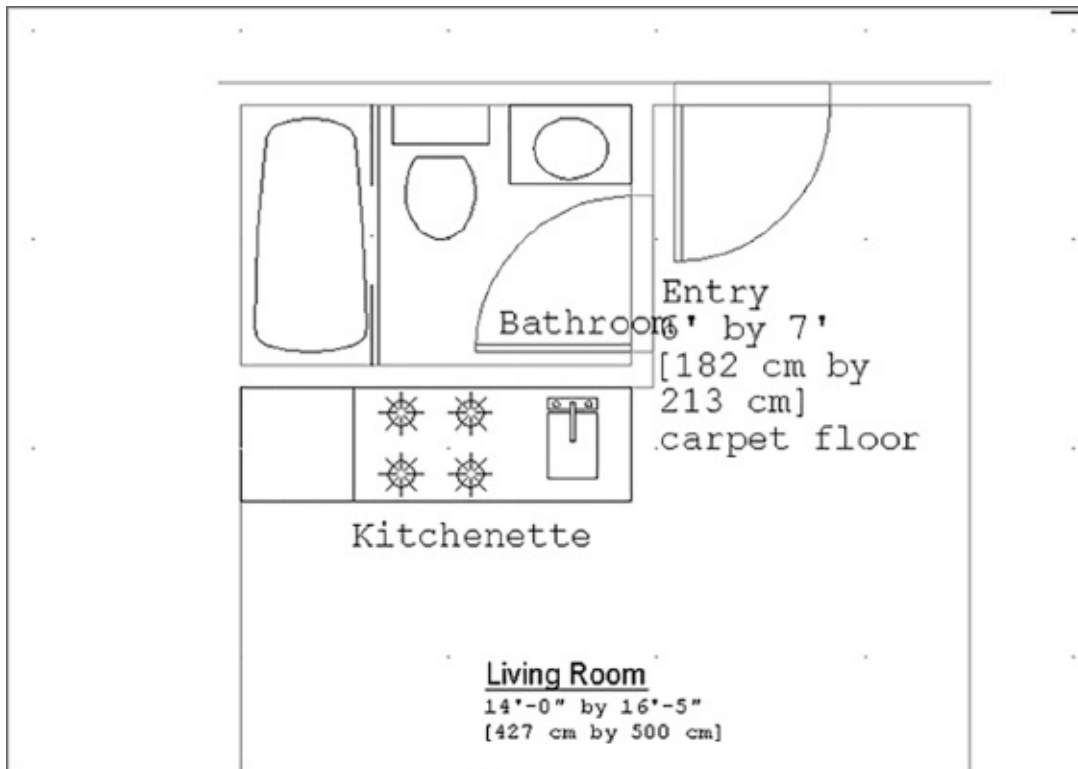

FIGURE 9.18 Adding simple labels to the kitchen and bath by using the Text command
1. Adjust your view so that you see the part of the drawing shown in Figure 9.18.
7. Type **Bathroom** ↵. Figure 9.18 shows how your drawing should look now.